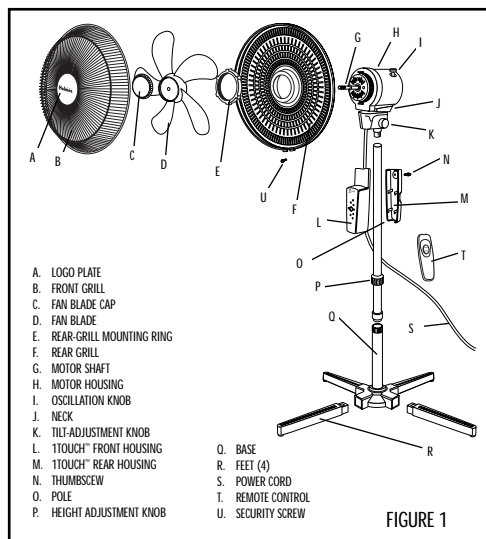

FIGURE 1
- Step 1: To change the tilting angle of the fan head; simply loosen the Tilt Adjustment Knob (see figure 1).